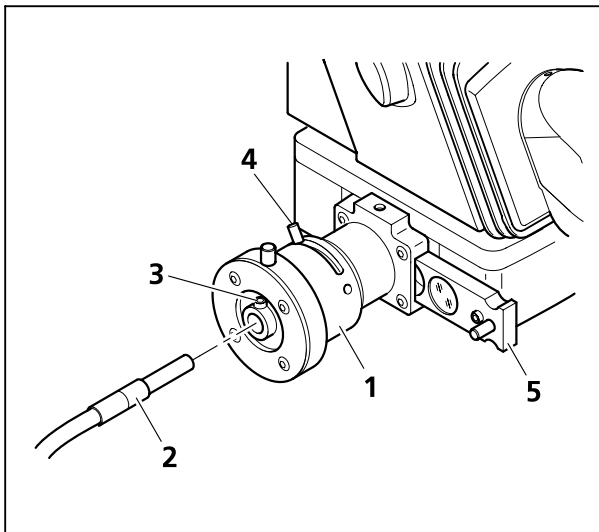

Fig. 24 Connecting the optical fiber of the X-Cite illuminator to the PentaFluar S/X-Cite
Make sure the light source is switched off or the shutter slider (Fig. 24/5) pulled out.
- Undo clamp screw (Fig. 24/3) for optical fiber on the mounting port (Fig. 24/1) of the PentaFluar S/X-Cite vertical illuminator using the SW 1.5 mm offset Allen key.
- Push the optical fiber (Fig. 24/2) as far as it will go into the mounting port and clamp the clamp screw (Fig. 24/3) using the SW 1.5 mm key.
- Lever (Fig. 24/4) serves to open and close the iris diaphragm.
- The shutter and filter slider (Fig. 24/5) has three functional positions: